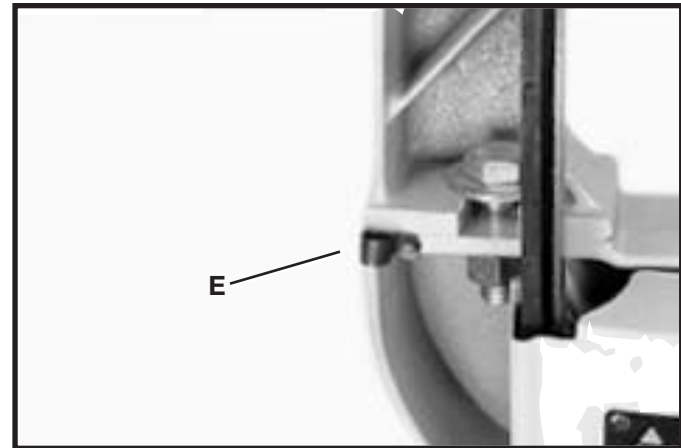

Fig. 11
6. Remove screw and cable clamp (E) Fig. 11, from lower arm of band saw.